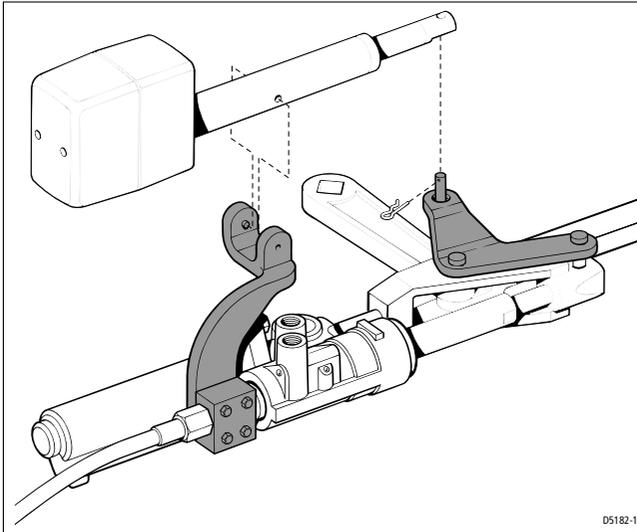

Figure 12: Fitting the I/O drive unit (Mercruiser 95)
6. Lower the I/O drive into the main support bracket (see *Figure 12*), making sure that: